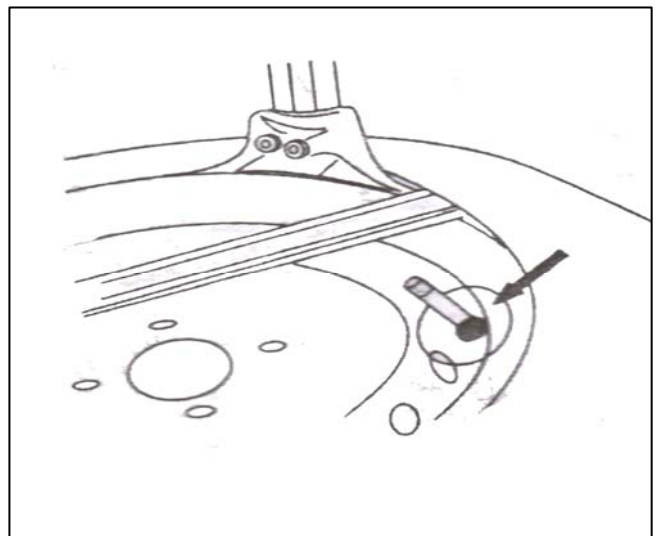

FIG 20
4.1.4 Use the crowbar to detach until the lip to the hump of the demount tool (FIG20). Step the turntable rotation pedal (FIG2-8) to rotate the turntable clockwise until the entire lip completely detached. If handling the tube tire, to avoid the damage on the tube, you should keep the nozzle of the tire 10cm from the right side of the demount tool when demounting.